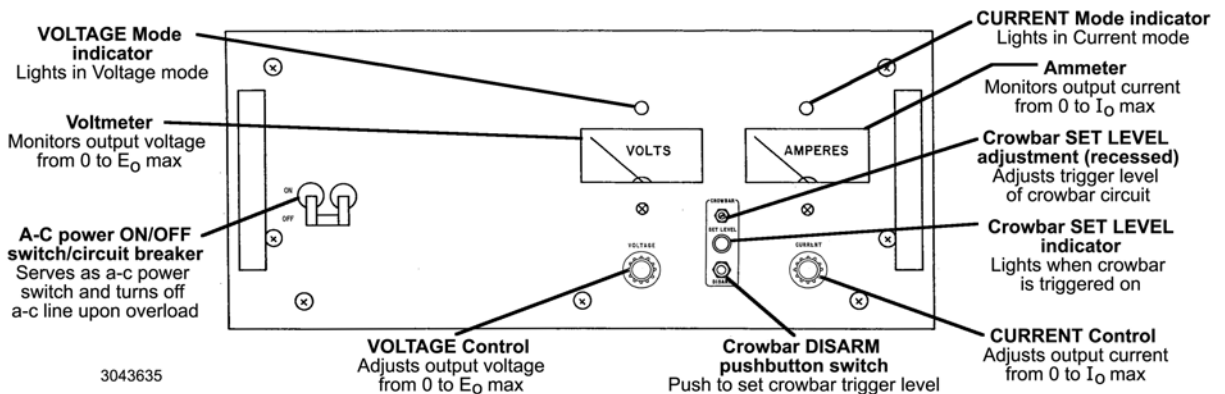

FIGURE 1. FRONT PANEL CONTROLS AND INDICATORS
The Kepco ATE with programmable overvoltage protector is a precision stabilized power supply which can deliver either stabilized output voltage or current. The prevailing operating mode is indicated by LED mode indicators at the front panel (Figure 1). Operating mode crossover is automatic and may be monitored remotely by means of a flag signal, available at the rear programming connector. The power supply features “full range” output control by means of 10-turn, high resolution front panel potentiometers for output voltage and output current. A pair of front panel meters constantly monitor the output voltage and output current.
3. Set the ATE front panel controls (Figure 1) as follows:
Turn the unit on using the front panel a-c power ON/OFF switch/circuit breaker (see Figure 1). **CAUTION: DO NOT repeatedly toggle the ON/OFF switch as this may cause unit to fault.** If actuator does not lock when released, wait a few seconds before trying again. The circuit breaker is “trip-free;” if overload exists, contacts cannot be held closed by actuator.